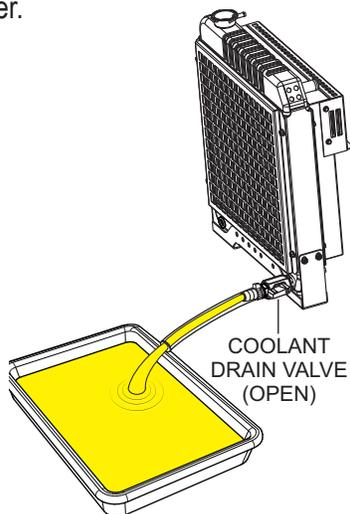

Figure 69. Draining The Engine Coolant
- Place the **coolant drain valve** in the **OPEN** position (Figure 69) and allow the coolant to drain into a suitable container.